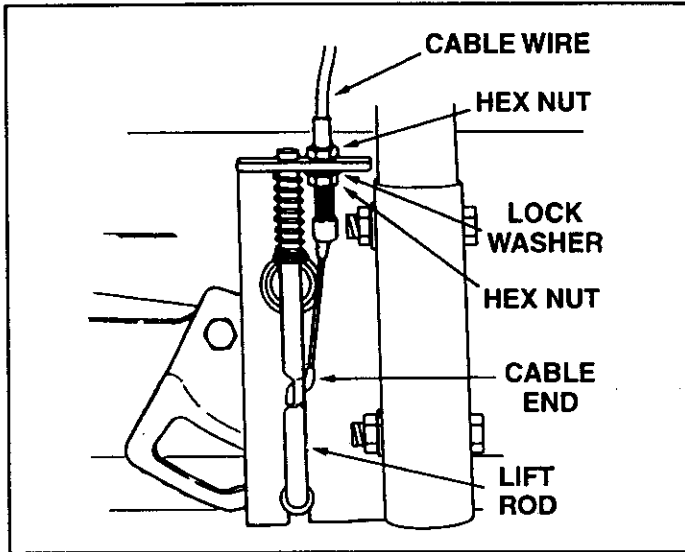

FIGURE 17 RIGHT SIDE VIEW
- Insert the end of the lift release cable into the hole in the lift rod. Place the cable into the slot in the top of the lift bracket, with one hex nut above the slot and one hex nut and lock washer below the slot. Tighten the nuts, adjusting them to take out excess slack in the cable wire just above the nuts. See figure 17.